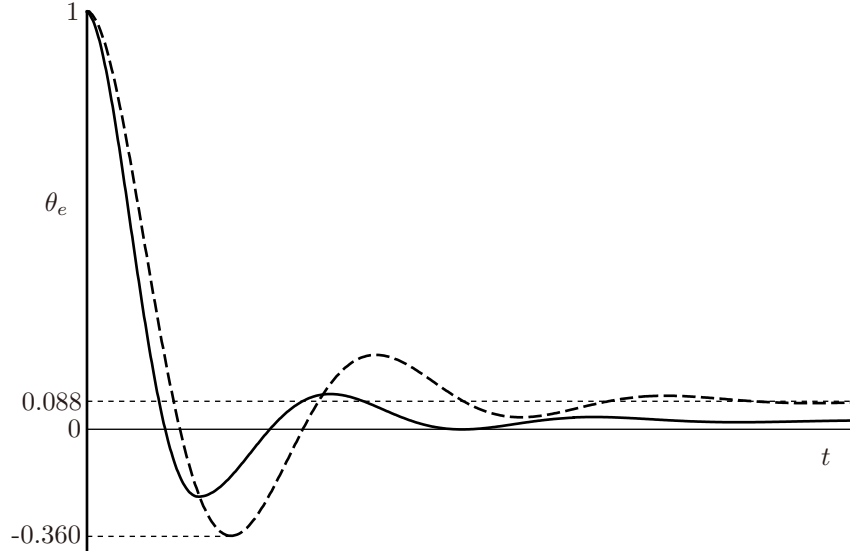

Figure 11.3: A plot of a better error response.
- (b) Any reasonable drawing is fine. An example better error response, with smaller steady-state error, less overshoot, and a faster settling time, is shown in Figure 11.3.